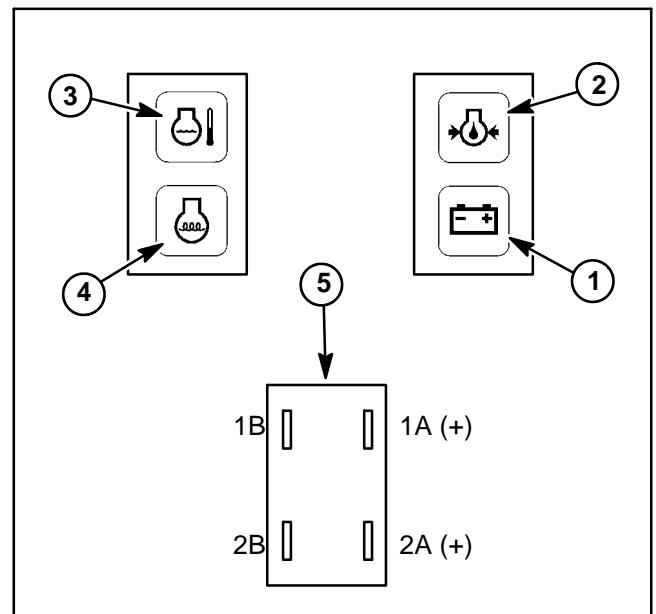

Figure 23
3. Apply 12 VDC to terminals 1A and 2A (Fig. 23).
4. Ground terminals 1B and 2B (Fig. 23).